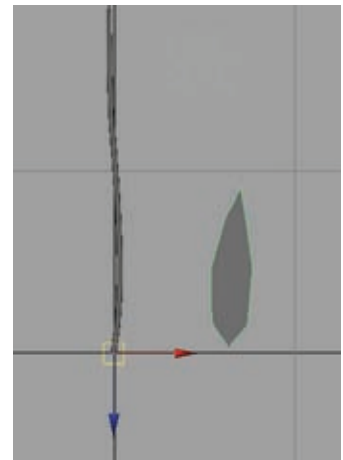

Figure 2.26
3. Select Mesh → Create Polygon Tool. Using your left mouse button, drop points into the shape of a leaf, similar to Figure 2.26. Press Enter when you're done to finalize the action and create the polygonal object.